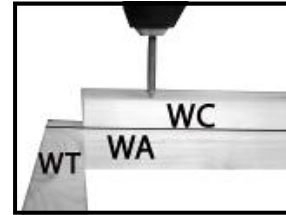

Fig A5
13. Fix to part **WC** to **WA** with 40mm screws ,spaced as before. (fig A5 & A6)